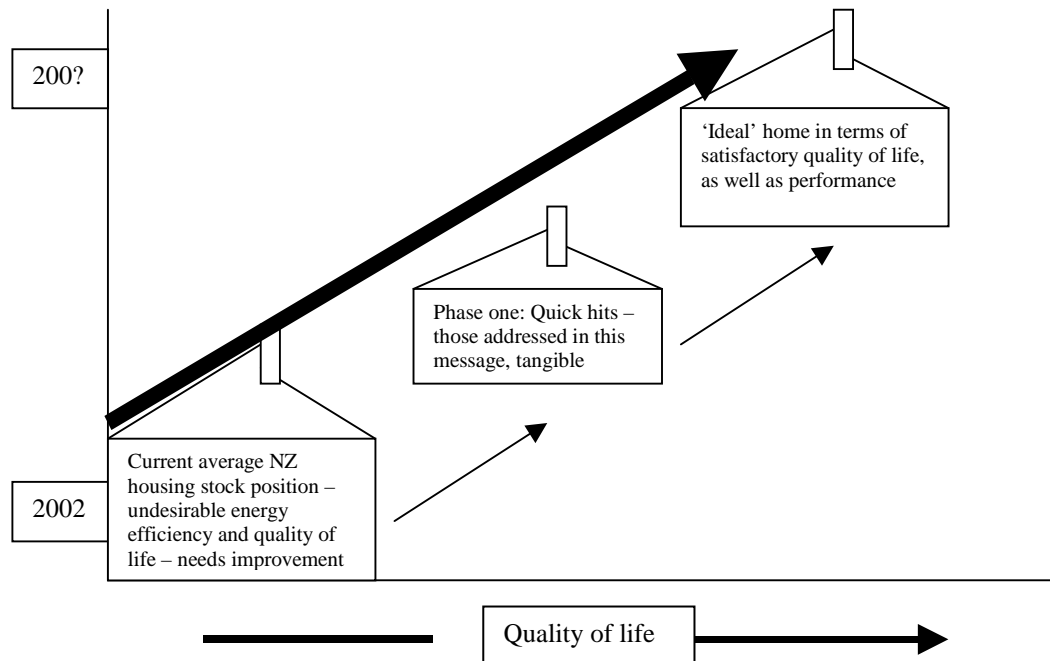

Figure 1: 'Raising the bar'
In early July 2002 a meeting was held with representatives of The Energy Efficiency and Conservation Authority (EECA), Building Research Association New Zealand (BRANZ), Forest Research (FR) and Winstone Wallboards (WWB) to investigate the need for a 'Climate Change and the Built Environment' strategy, based on gaps in existing policy documents. At this meeting sharing of findings and discussion was based on the above research by Forest Research, studies on energy use and likely climate change impacts by BRANZ, and customer studies undertaken by Winstone Wallboards. This discussion highlighted gaps in ability to meet these needs despite a number of Government policy statements and strategies being released looking to plug certain aspects of the gap. This discussion led to a mutual agreement that 'raising the bar' in terms of what the residential sector could rightly expect as standard was needed. The term 'Post-Kyoto' was first voiced at this meeting. The diagram below shows the thinking behind the group's feeling on 'raising the bar' – that raising the bar will need to take *quality of life* as well as *whole of life* into account (Figure 1).